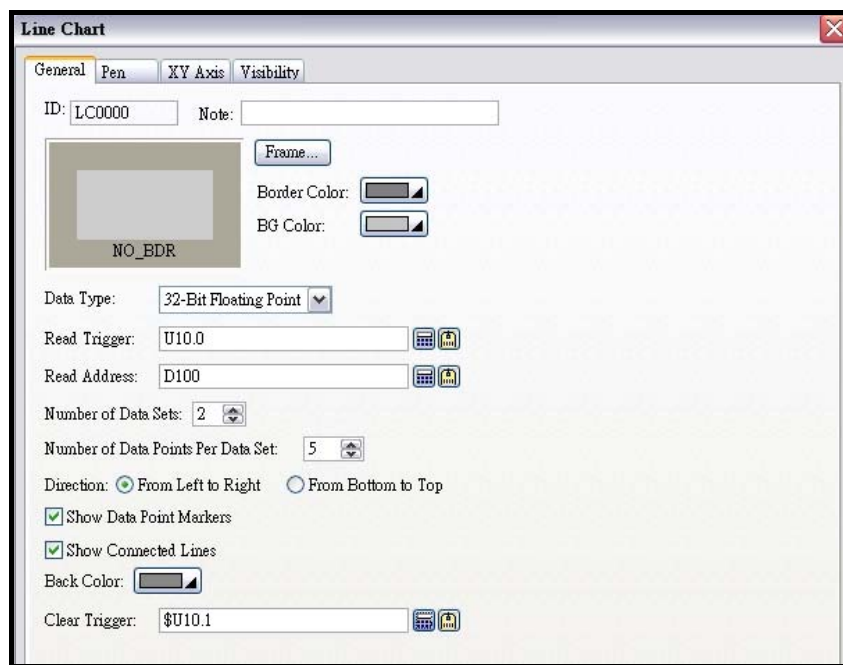

Figure 2-36 Object properties dialogue \_line chart
**Line Chart** : The HMI reads a series of data from specified PLC registers to transform to a Line Chart on the screen. See figure 2-36. A line chart can have maximum 8 lines. The Number of Data Sets and Number of Data Points Per Data Set decide the maximum displaying number of X – coordinate of a Line Chart.